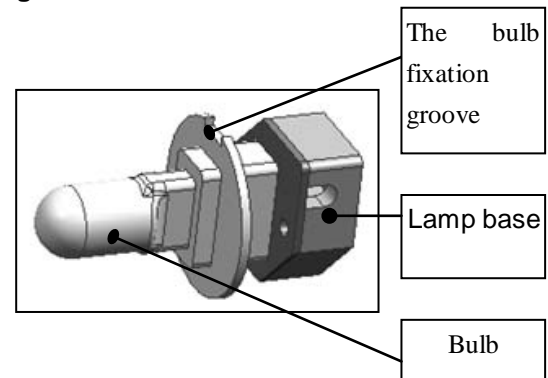

Fig.5.3.3
3. Take out the old lamp part (Fig.5.3.2), replace it with a new one. The groove in the bulb fixation disc should be aligned with the flange of the lamp base; otherwise the illumination may be uneven (Fig.5.3.3). Fix the lamp part with three knobs.